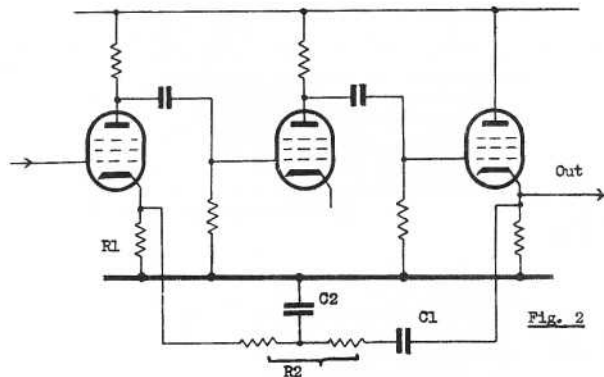

Fig. 2
Figure 2 shows the circuit diagram. As usual with BATC circuits, values are not critical and standard parts are used wherever possible. Possible economies in valves and components have been sacrificed in order to make the unit easily serviced and set up with a minimum of test gear.
H.F. response can also be controlled by judicious use of NFB; a small capacitor of the order of a few pF across R_2 will apply more feedback at high than at mid-frequencies, tending to cause the frequency response to fall at high frequencies. If as more usually happens, a lift at H.F. is required, the feedback may be shorted to earth at H.F. by a small capacitor, best done by splitting R_2 in two, and putting a small C to earth from the mid-point, as in Fig. 2. Splitting R_2 so that C is $1/3$ of the way along may give better results.